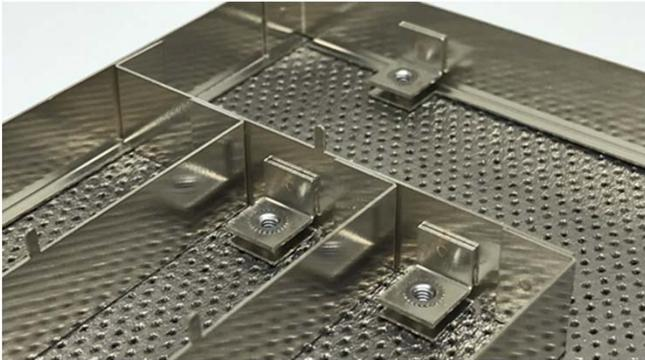

Fig. 5. Hybrid shield with cover, showing attachment lugs.
- ▶ As seen in Fig. 5. Hybrid shields utilize a formed perimeter flange to ensure adequate gasket compression and provide shielding effectiveness. To secure the cover and provide effective intercavity isolation Hybrid shields utilize a formed lug with threaded insert to allow mechanical attachment of the cover with screws.